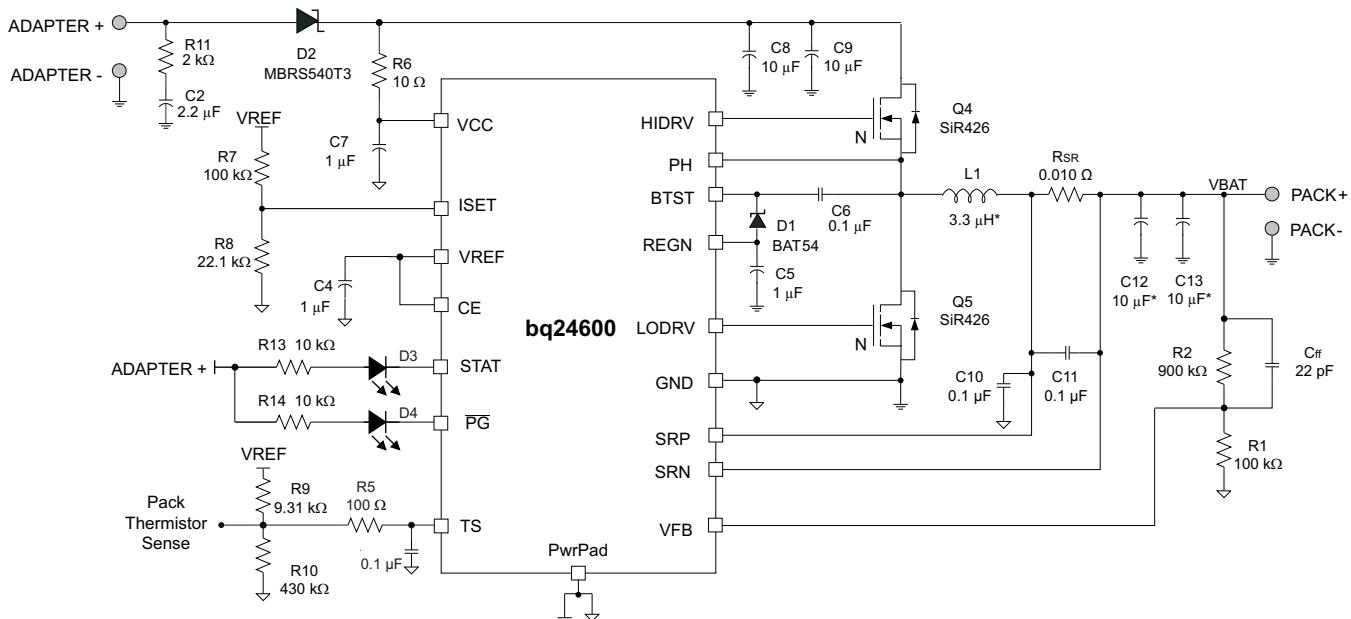

Figure 11. Typical Application Circuit
Assuming a 103AT NTC thermistor on the battery pack as shown in Figure 11, the value RT1 and RT2 can be determined by using Equation 5 and Equation 6:
**Table 4. Supporting Components for Figure 11**